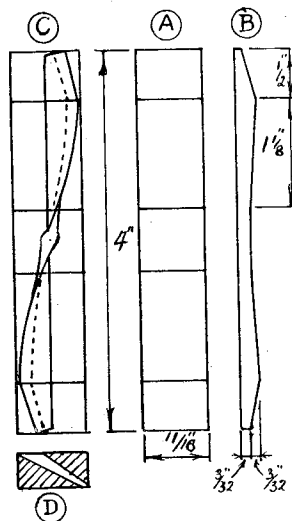

Fig. 43.
In Fig. 43 is shown the manner in which our model airscrews are constructed. The drawing (A) shows the face of a block of wood (almost any wood will suffice), 4 in. long by  $1\frac{1}{16}$  in. wide. Drawing (B) shows the side elevation of the block, and it will be seen that it is chamfered off at both tips, and slightly tapered inwards towards the boss. Diagram (C) shows this block with the propeller shape inscribed upon it. This done, the propeller blank should be cut out along the edges of the drawing. Now, on one side
of the blank, draw a pencil line down both blades to correspond with the dotted lines in my drawing. This side of the blank should now be marked "Front." Carving may now proceed, and the lower drawing (D) shows how the surplus wood (shaded) is cut away. Care should be given to the blending of the blades into the boss of the airscrew, and the whole sanded smoothly into a neat twist. By cutting from the dotted line to the lower edge of the blades the pitch of the airscrew will develop automatically. One face of the propeller will be curved, and the other side flat; the side which we marked "Front" will be set towards the front of the aeroplane, and will be the curved side, as the airscrews are of the "pusher" type. Our drawing, Fig. 43, is of the airscrew in the left-hand side of the photograph.
It must be remembered that the airscrews revolved in opposite directions to each other, and that the right-hand one must, therefore, be carved in an opposite manner from that of the left. To do this, it will only be necessary to take a tracing of the drawing (C) in Fig. 43, reverse it, and trace through on to another piece of wood. In this way, the curved edge of the top blade will lie to the left of the centre line, and the curved edge of the lower blade to the right. Proceed to carve as before, and the airscrews will develop correctly.